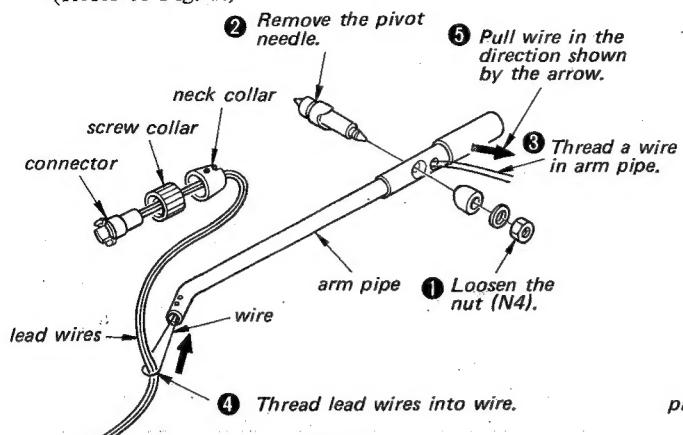

Fig. 1
1. Thread the lead wires into the arm pipe. (Refer to Fig. 1.)